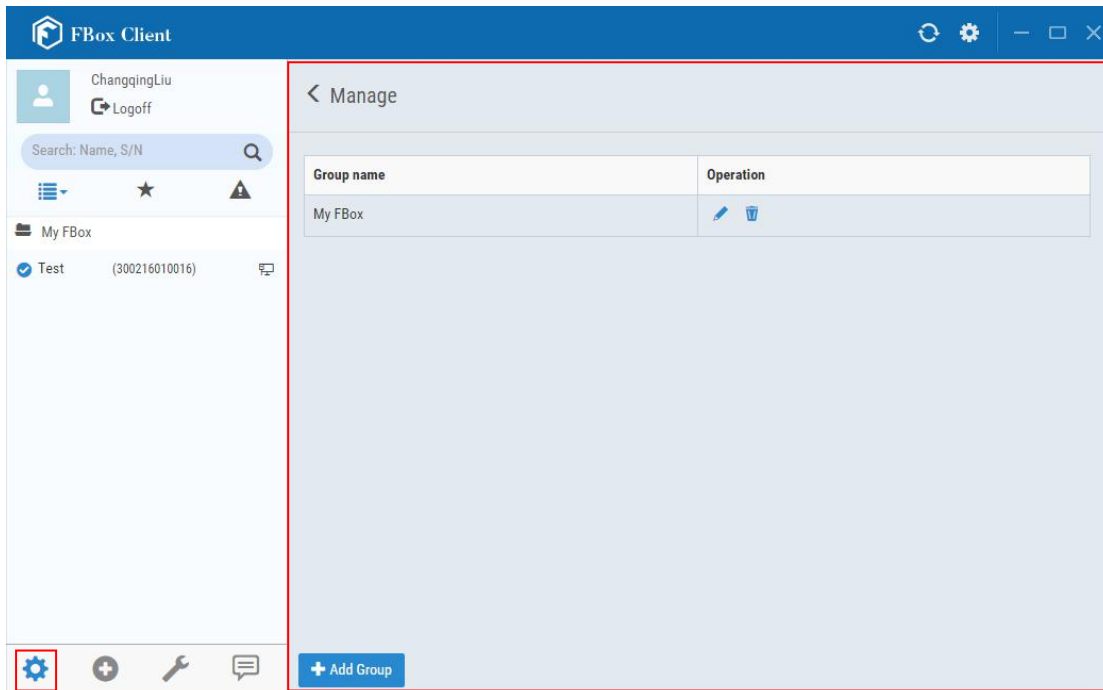

Fig. 4.3-1 Manage by group
(1) Log in your account after run the FBoxClient software. Then click the icon "  " in the device management area. The group management interface is displayed on the right side, as shown in Fig. 4.3-1. You can add FBox groups here.